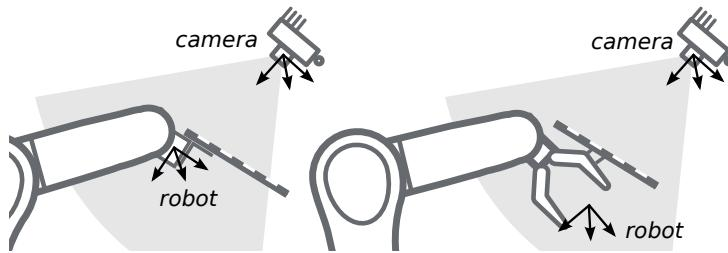

Fig. 6.26: Alternate mounting options for attaching the calibration grid to the robot
**Calibration with a statically-mounted camera** In use cases where the camera is positioned statically w.r.t. the robot, the calibration grid needs to be mounted to the robot as shown for example in Fig. 6.25 and Fig. 6.26.
**Note:** The hand-eye calibration module is completely agnostic about the exact mounting and positioning of the calibration grid w.r.t. the user-defined *robot* frame. That means, the relative positioning of the calibration grid to that frame neither needs to be known, nor it is relevant for the calibration routine, as shown in Fig. 6.26.